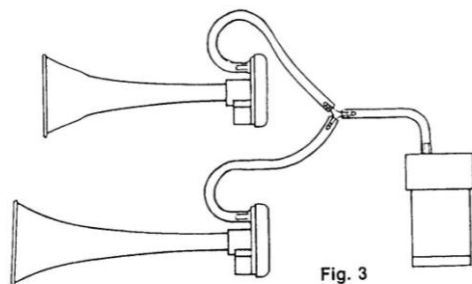

Fig. 3
6. Using plastic tubing in kit, cut to proper length and install with air fitting as shown in figure 3. CAUTION: TUBING MUST BE INSTALLED STRAIGHT; KINKS OR SHARP BENDS WILL STOP HORNS FROM SOUNDING.